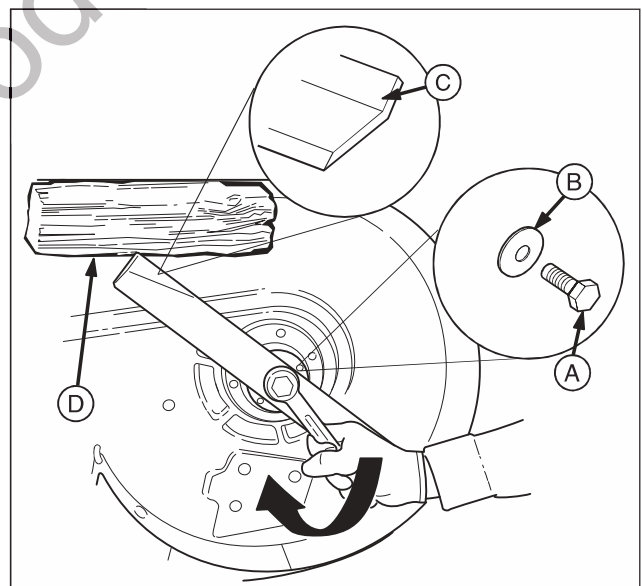

Figure 34. Tightening the Mower Blade for Installation
1. Reinstall each mower blade with the air lifts pointing up towards the mower deck as shown in Figure 34. Secure with the mower blade mounting bolt and flat washer (A & B, Figure 34) and torque to 70 ft. lbs (94 Nm).